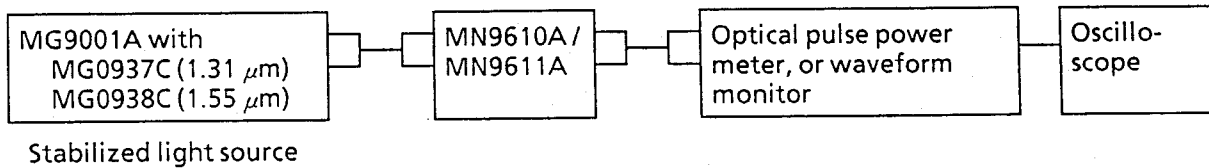

Fig. 7-4 Test System (3)
1. Figure 7-4 shows the block diagram of the test system that measures the overshoot. Press the [ATTENUATION] setting key of the MN9610A/MN9611A and turn the rotary encoder to set the attenuation to the initial value.